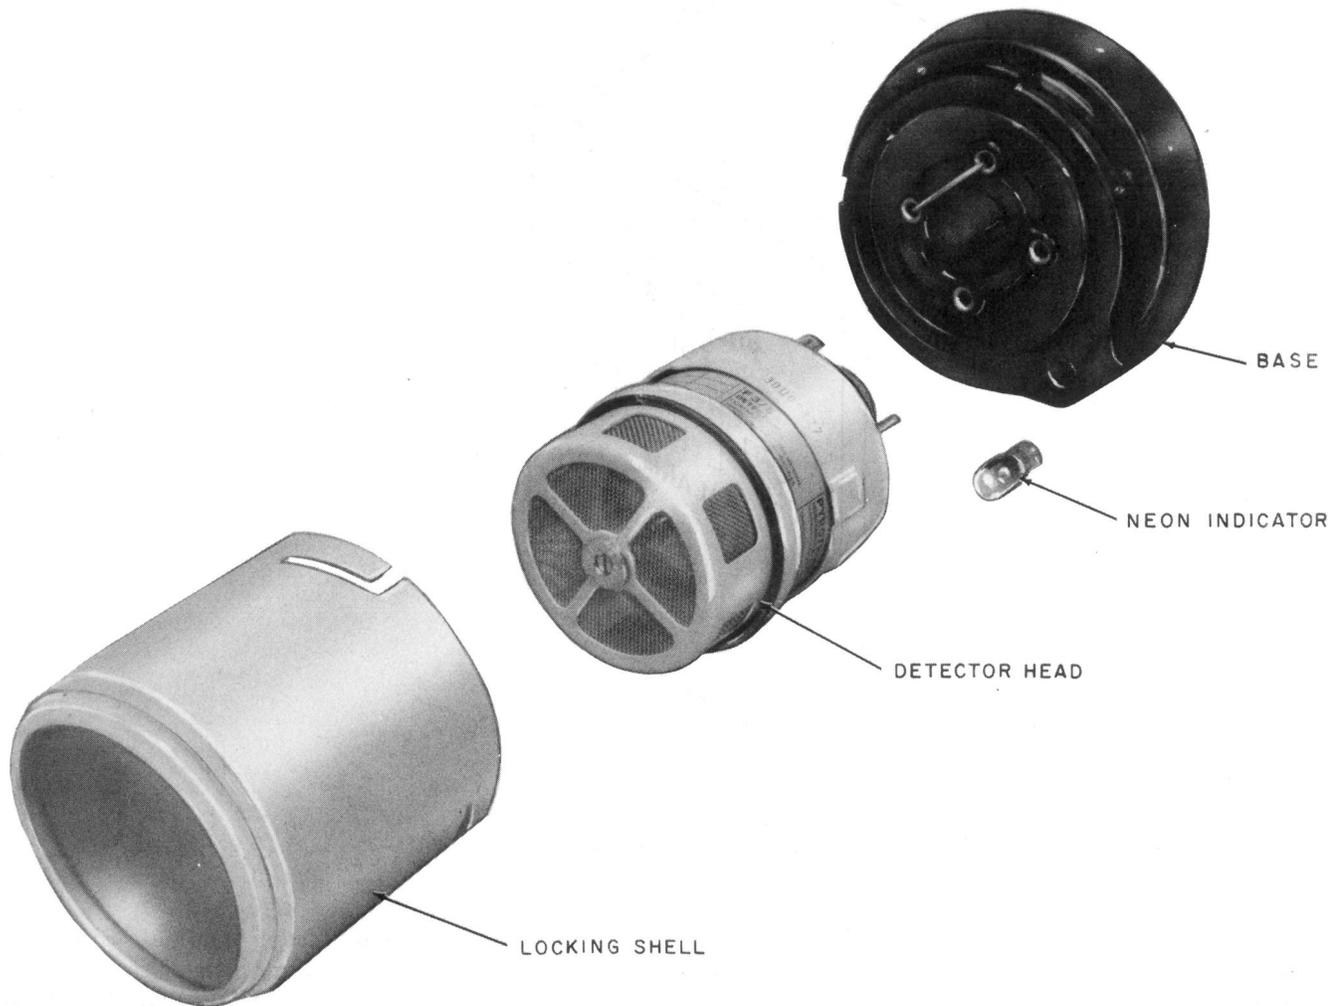

Fig. 16—Pyr-A-Larm Ionization Fire Detector (Model DIS-3/5A) Unassembled
(Fig. 16) in the power service module or cable vault.
3.09 The Pyr-A-Larm ionization fire detectors, Model DIS-3/5A, (Fig. 16), are constructed to react to any indications of a fire. Any invisible combustion products entering the detector's outer chamber, disturbs the balance between two ionization chambers and triggers a highly sensitive cold cathode tube. The firing of the tube transmits a signal to the control panel. The transmitted signal then activates the alarm devices.